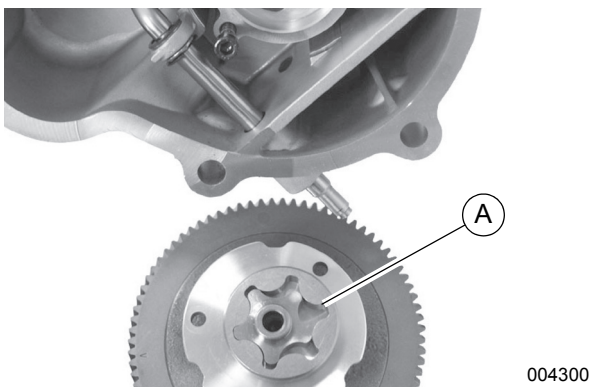

Figure 9-7. Oil Pump, Vertical Engine
See Figure 9-7 or Figure 9-8. As the gerotor turns, oil is drawn into the oil intake and fills the entire cavity (A) between the inner and the outer rotor. As the gerotor continues to rotate, oil moves from the intake port to the outlet port where the pressurized oil is forced into the entire lubrication system.